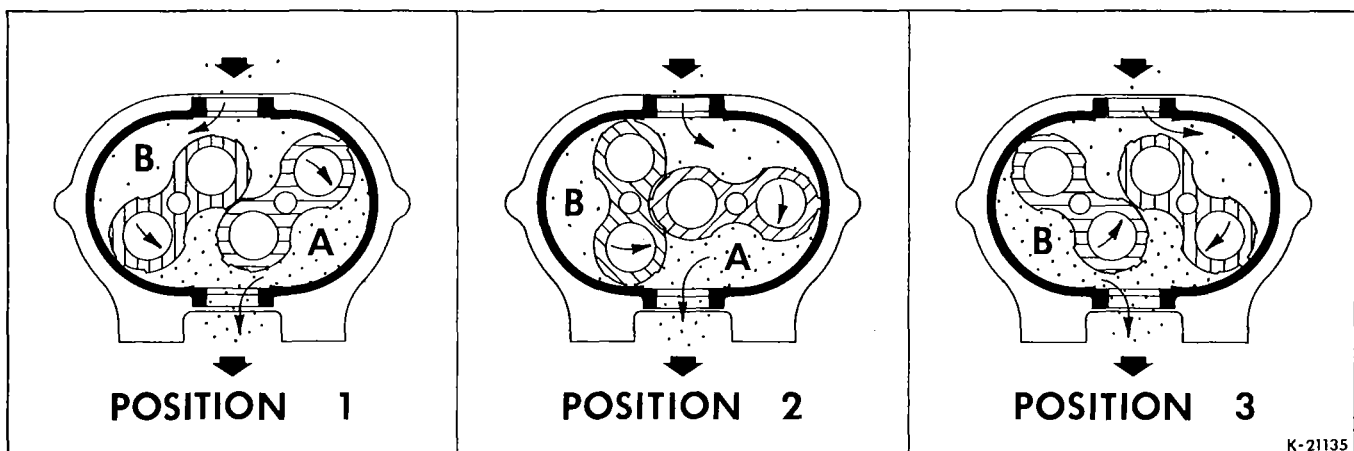

Figure 1 - Flow Through a Basic Type AF Blower
Operation of the familiar basic rotary lobe blower is illustrated in FIGURE 1, where air flow is top to bottom from inlet to discharge with the right impeller rotating clockwise. In Position 1 it is delivering a known volume (A) to the discharge, while space (B) between the left impeller and cylinder wall is being filled. Counterclockwise rotation of this impeller then traps equal volume (B) in Position 2, and further rotation delivers it to the discharge in Position 3. At the same time, another similar volume is forming beside the right impeller, and will be discharged when rotation reaches Position 1 again.